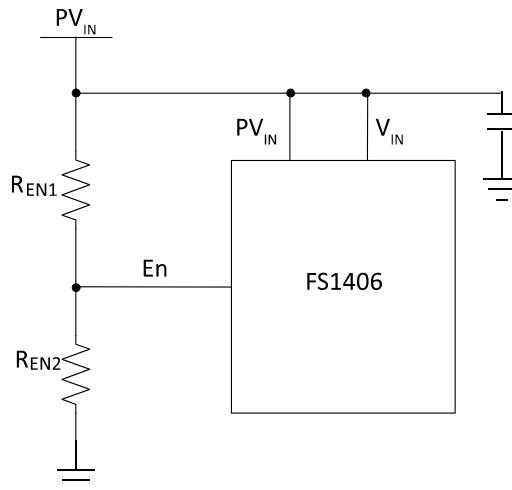
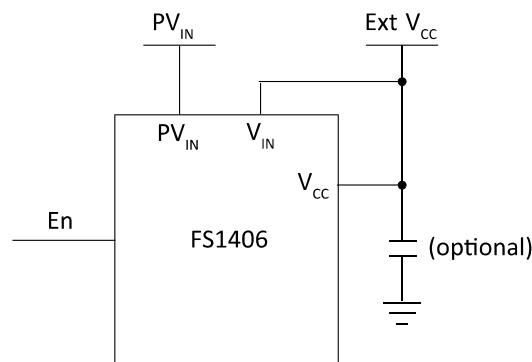

Figure 6 Single supply configuration: internal LDO regulator, adjustable P_{V_{IN}}_UVLO
Figure 7 Using an external bias voltage
The FS1406 has an integrated Low Drop-Out (LDO) regulator, providing the DC bias voltage for the internal circuitry. The typical LDO regulator output voltage is 5.2V. For internally biased single-rail operation, the V_{IN} pin should be connected to the P_{V_{IN}} pin (Figure 6). If an external bias voltage is used, the V_{IN} pin should be connected to the V_{CC} pin to bypass the internal LDO regulator (Figure 7).
- It can be used to implement a precise input voltage UVLO. The input of the En pin is derived from the PV_{IN} voltage by a set of resistive dividers, R_{EN1} and R_{EN2} (Figure 6). Users can program the UVLO threshold voltage by selecting different ratios. This is a useful feature that stops the FS1406 regulating when PV_{IN} is lower than the desired voltage.